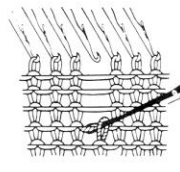

Fig.49-3
- c) Continue to pull the needle back until the strand is drawn through the loop. (Figs.49-3 & 4)